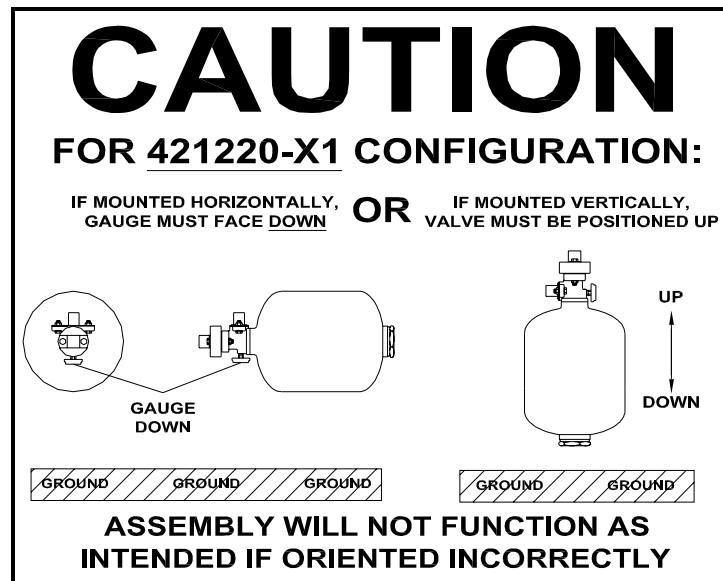

FIGURE 36 - GAUGE DOWN (-X1) EXTINGUISHER ORIENTATION
12. Install the extinguisher assembly in the extinguisher bracket. Orient per the instructions on the extinguisher nameplate (figure 36 & 37). Torque the two band clamps on the extinguisher bracket to 20 lb. ft. (nominal).